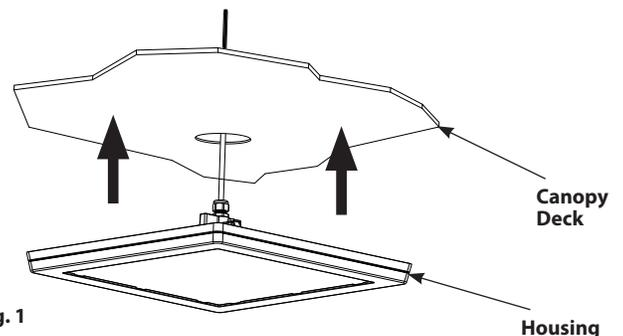

Fig. 1
1. Install **Housing** from below at the center of standard steel **Canopy Deck** as in **Fig. 1**.